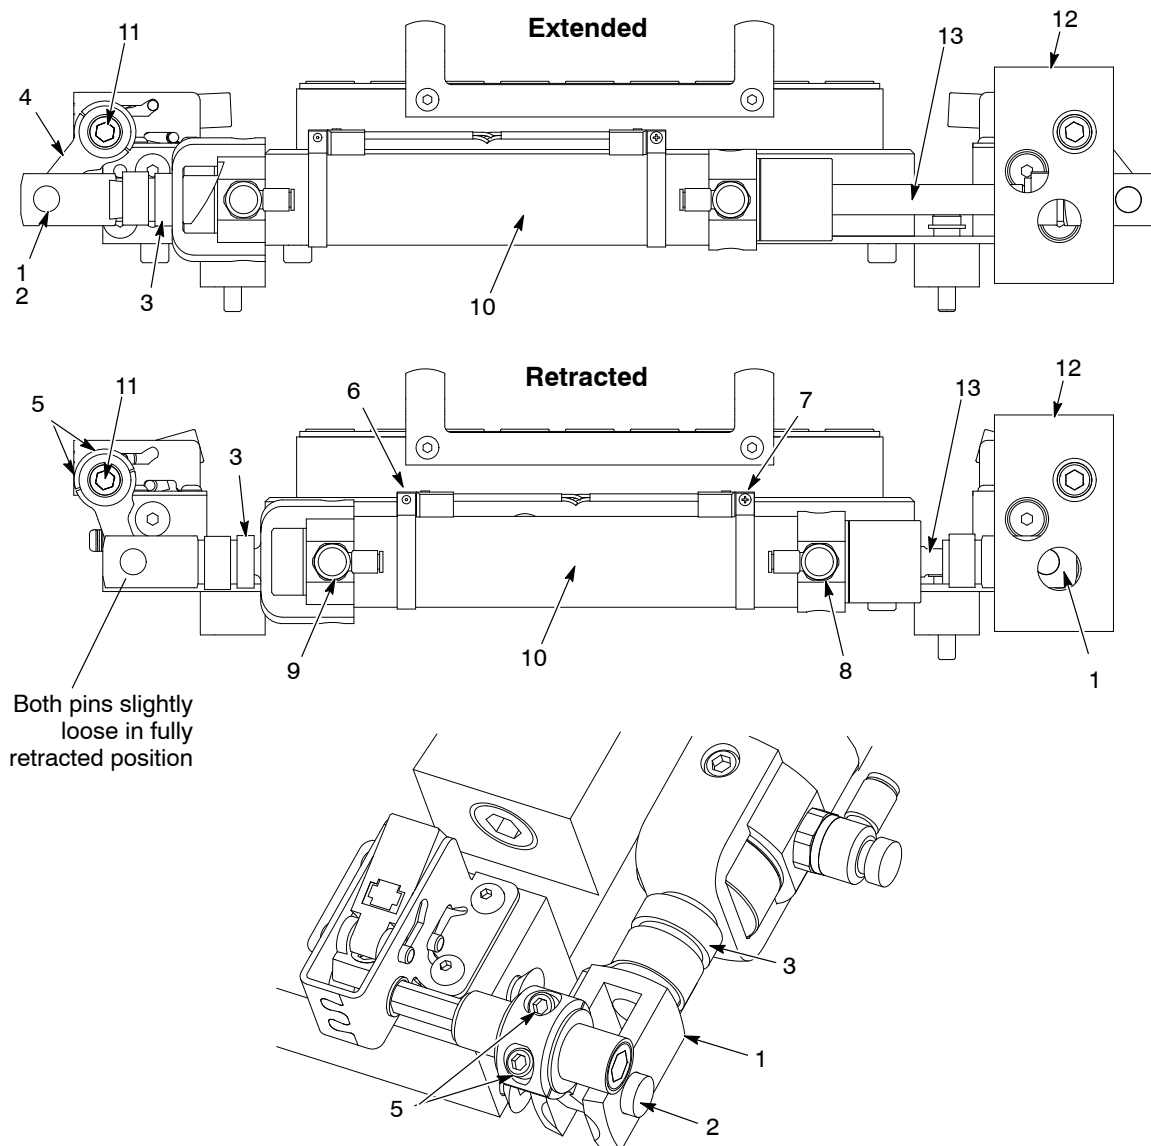

Figure 8-5 Clamping Cylinder Replacement
2. See Figure 8-5. Disconnect the air tubing from the extend and retract flow control valves (8, 9).
3. Retract the cylinder rod (13) to gain access to the lever hardware.
4. Remove the clamp screws (5) on each lever assembly (4), then remove the cylinder assembly (10), and lever assembly (4) from the manifold shaft (11).
5. Discard the old cylinder assembly (10) and lever assemblies (4).
6. Remove the proximity switches (6, 7) from the new cylinder assembly (10).
7. Center the new cylinder assembly (10) inside cylinder adapter spacer (12) with the latches in fully open position and the cylinder rod (13) fully retracted.